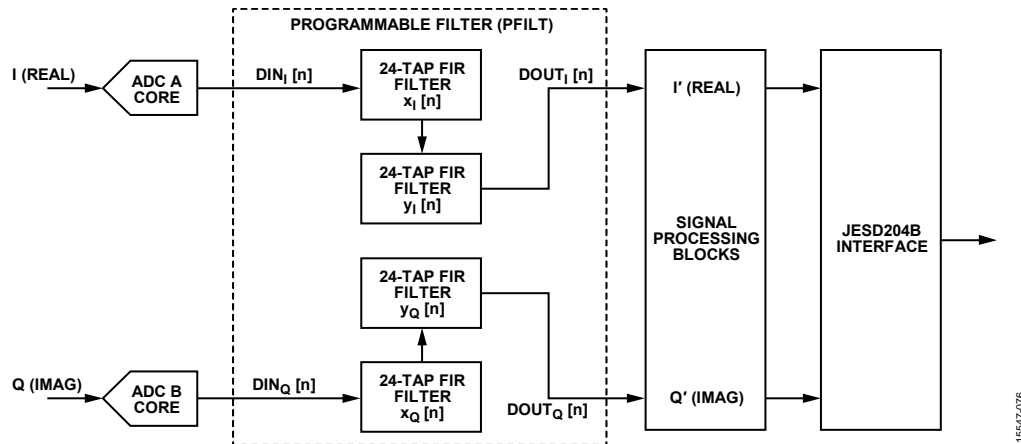

Figure 81. Real, Two Cascaded, 24-Tap Filter Configuration
- Real set of two cascaded 24-tap filters for each I/Q channel (see Figure 81)